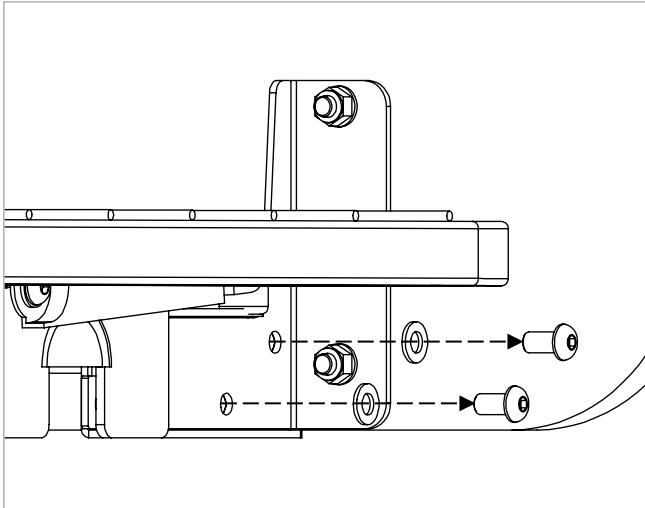

Figure 12.1
1. Undo the bolts shown in Figure 12.1 on each side of the bed and retain the bolts and washers.